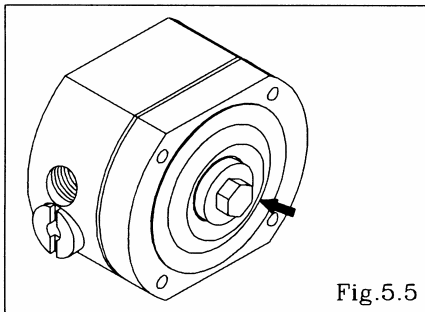

Fig.5.5
- Remove the center disk from one side using the Accessory tool (special tool: Part No. 771132). (NDP-5) [Fig.5.5]
- Remove the center disk from one side.(NDP-15) [Fig.5.5]